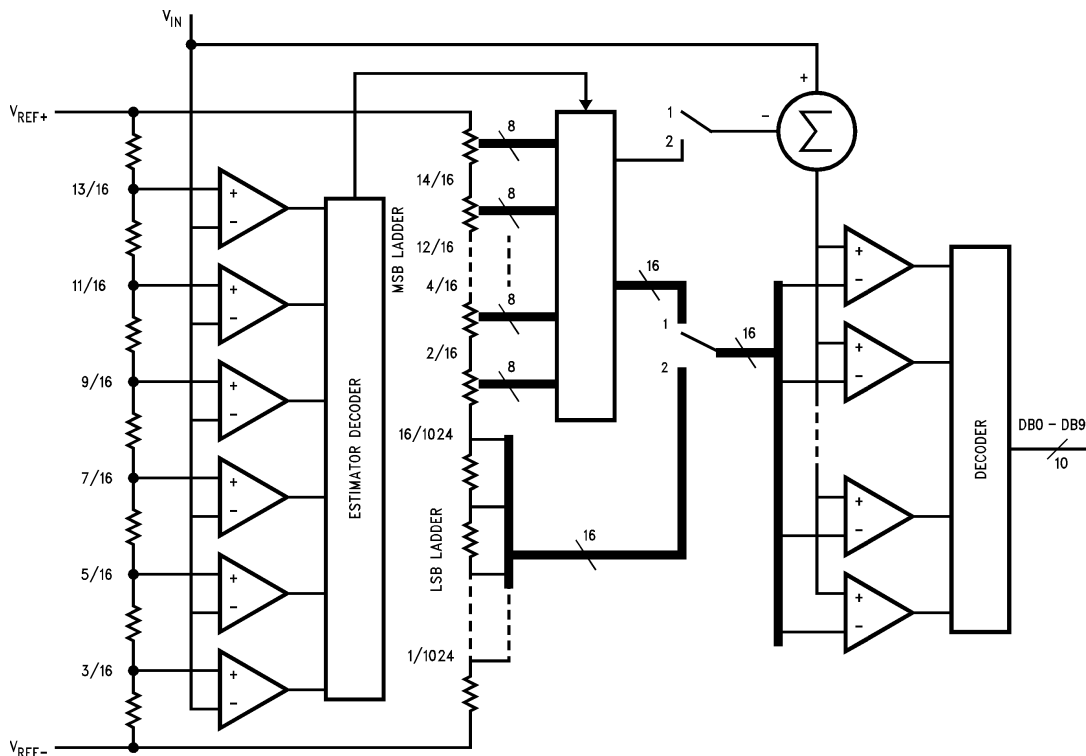

Figure 19. Block Diagram of the Multistep Converter Architecture
**Figure 19** is a simplified block diagram of the converter. Near the center of the diagram is a string of resistors. At the bottom of the string of resistors are 16 resistors, each of which has a value  $1/1024$  the resistance of the whole resistor string. These lower 16 resistors (the **LSB Ladder**) therefore have a voltage drop of  $16/1024$ , or  $1/64$  of the total reference voltage ( $V_{REF+} - V_{REF-}$ ) across them. The remainder of the resistor string is made up of eight groups of eight resistors connected in series. These comprise the **MSB Ladder**. Each section of the MSB Ladder has  $1/8$  of the total reference voltage across it, and each of the LSB resistors has  $1/64$  of the total reference voltage across it. Tap points across these resistors can be connected, in groups of sixteen, to the sixteen comparators at the right of the diagram.